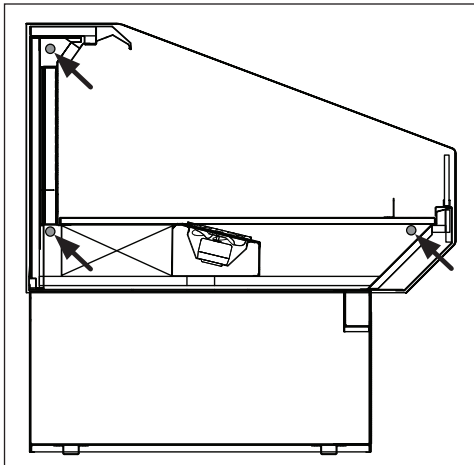

Fig. 6 Bolt locations (CLOSED)
4. Push the cases tightly together, then lightly bolt them together through the holes provided (Fig. 6 & 7). Tighten all the joining bolts until all margins are equal. Be careful not to over tighten.